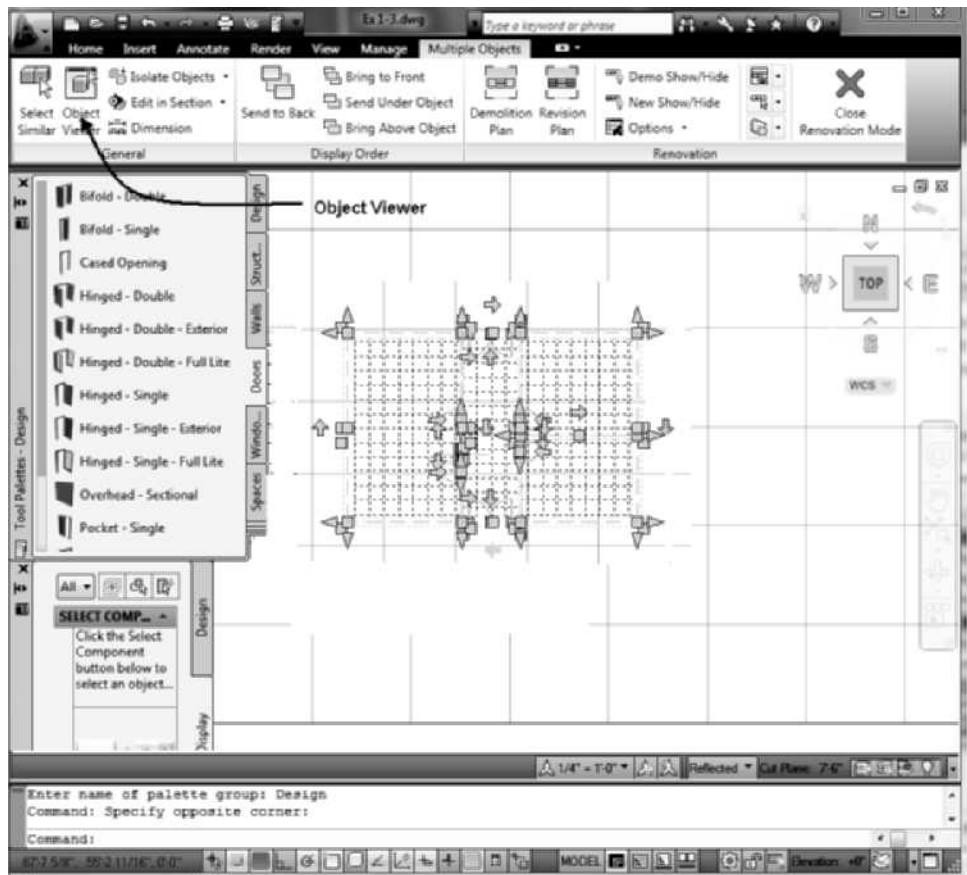

FIGURE 1.61 Building selected for view
30. To view the building in the Object Viewer, select the entire building using a window selection set from **p1** to **p2** as shown in Figure 1.61 and choose **Object Viewer** from the ribbon **Multiple Objects** > **General** panel.